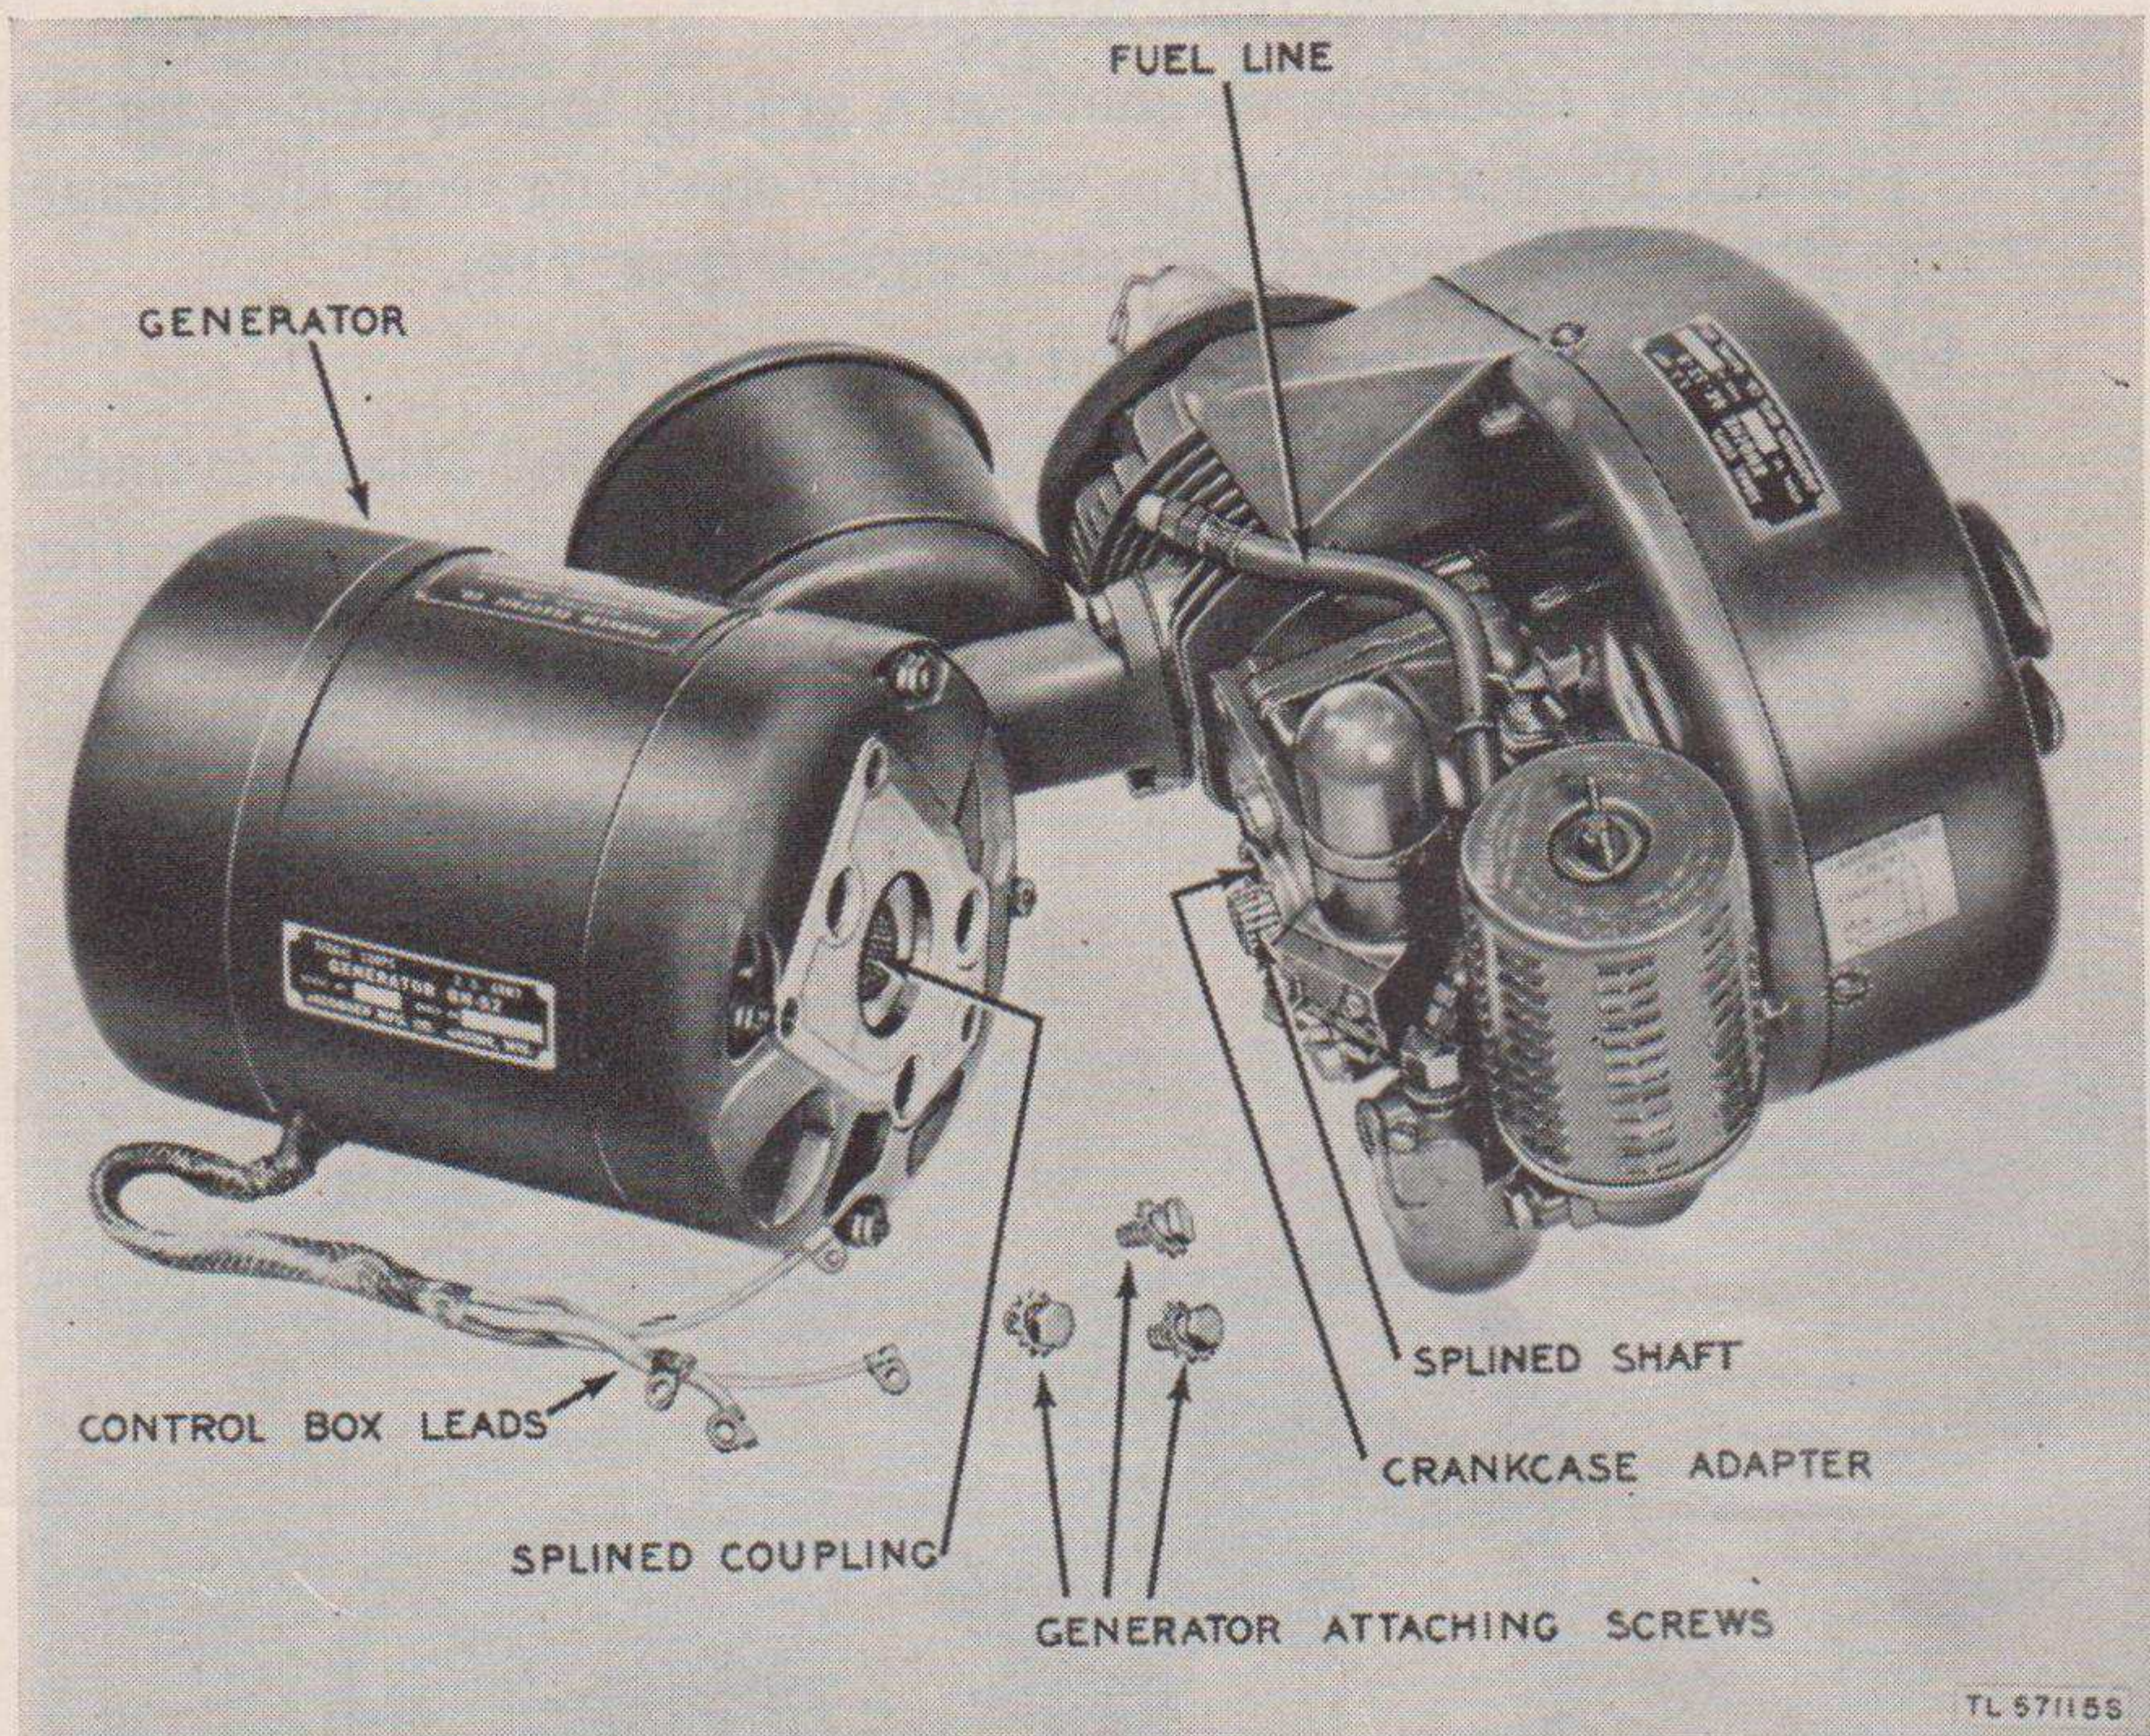

Figure 17. Generator disassembled from engine.
- (d) To remove generator from engine, disconnect lead wire from control box at the governor. Unscrew three hexagonal head cap screws from back side of bearing adapter. Tap generator until it is disengaged from the splined shaft of the engine crankshaft (fig. 17).
a. Smear a small amount of grease in the recess around the crankshaft splined end and also on the spline (fig. 17).